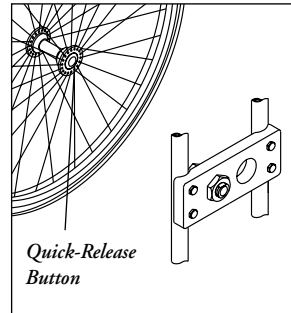

Figure 3
- Depress the quick-release button on the axle. (Fig. 3)